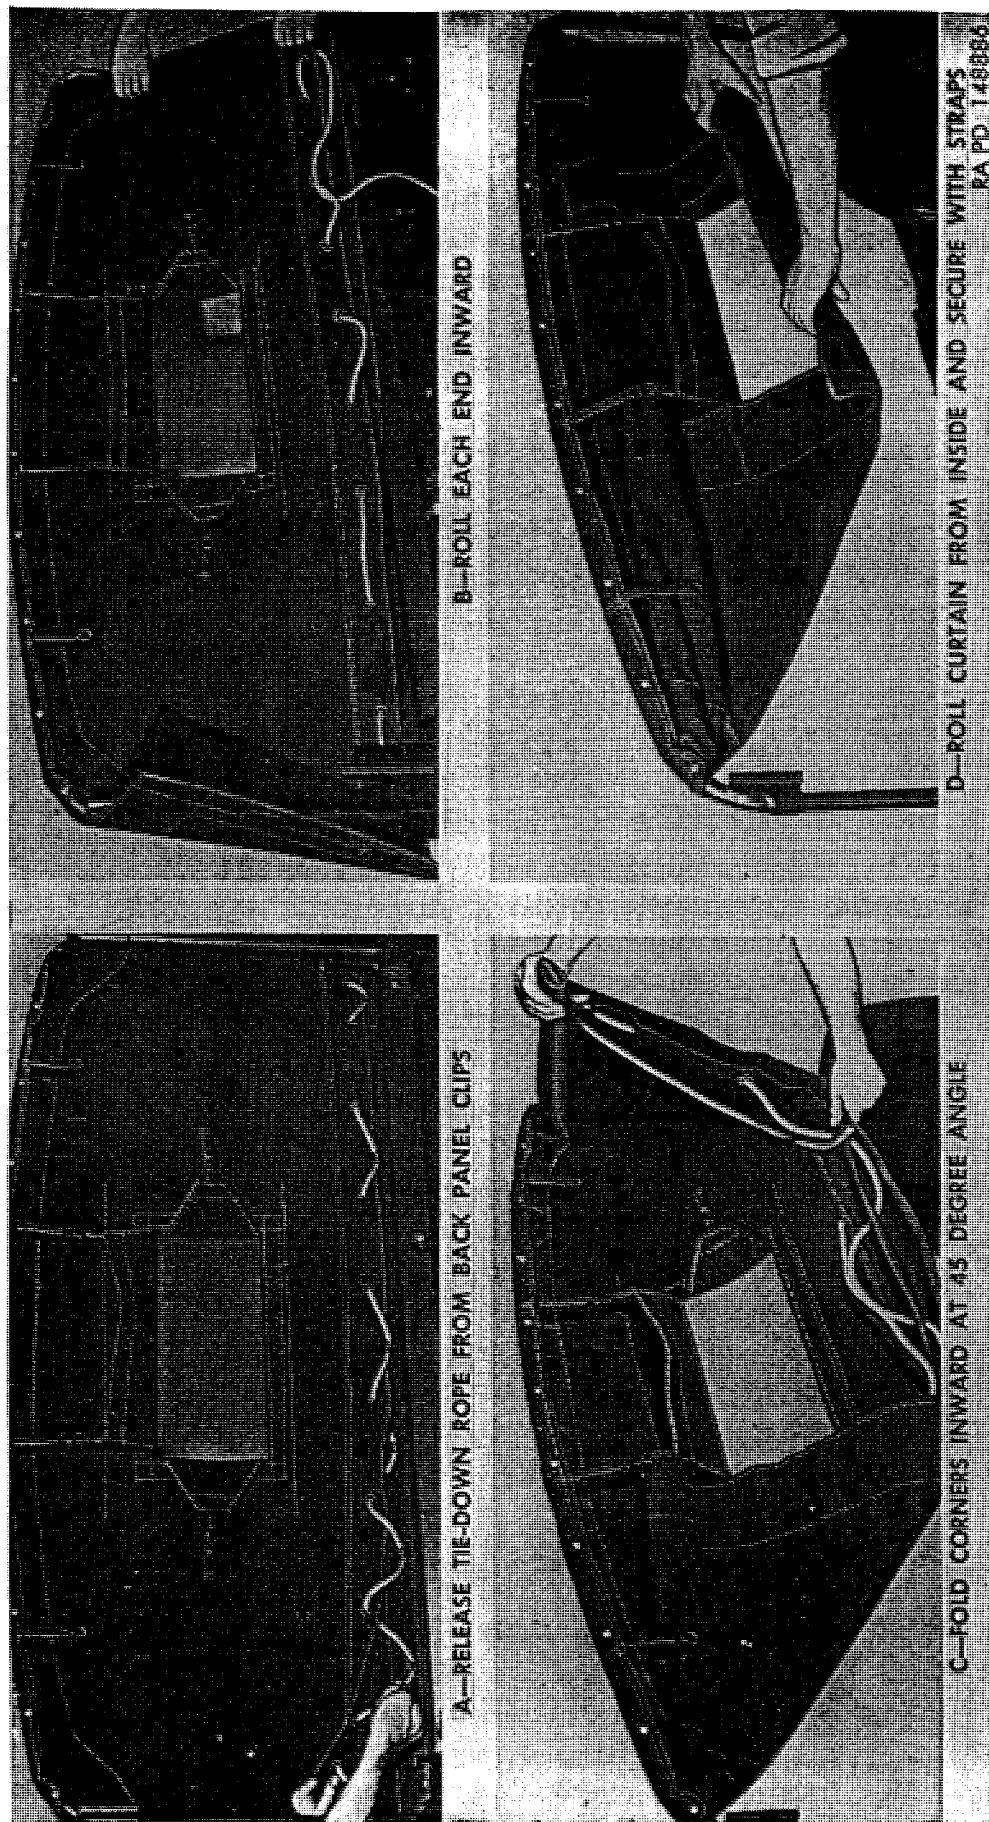

Figure 307. Rolling up rear curtain.
(2) *Rear curtain rolled.* Roll roof paulin and secure to windshield ((1) above). Untie ends of rear curtain lashing rope from legs of roof bow; then disengage rope from hooks on inside of rear panel (A, fig. 307). Roll each end of rear curtain inward (B, fig. 307); then fold each corner inward (C, fig. 307). Roll curtain up, from inside cab, and secure to roof bow with roll-up straps (D, fig. 307).